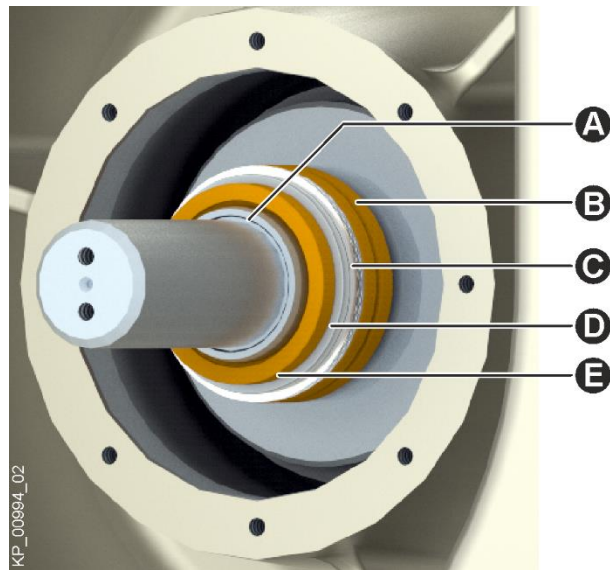
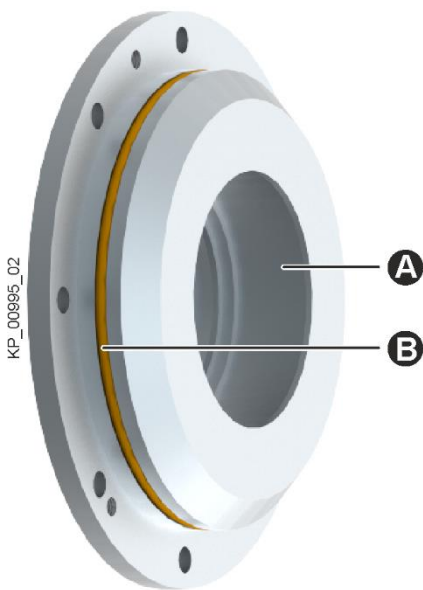

Fig. 68: Bearing of the main shaft
Fig. 69: Bearing flange cover with seal
- Check the wear ring (Fig. 68/A) and replace it if necessary.
- Replace the rotary shaft seal (Fig. 68/E).
- Check the seal (Fig. 69/B) of the bearing flange cover (Fig. 69/A) and replace it if necessary.
- Put the shaft washer (Fig. 68/D) and 6 disk springs (Fig. 68/C) in the proper position in the bearing flange cover.
- Mount the bearing flange cover (Fig. 69/A) together with the inserted rotary shaft seal (Fig. 68/E), the shaft washer and the disk springs.